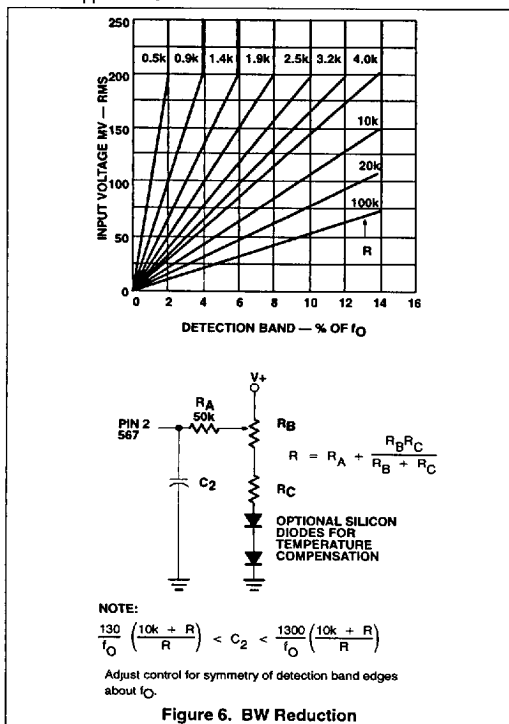

Figure 6. BW Reduction
**ALTERNATE METHOD OF BANDWIDTH REDUCTION** (Figure 6)